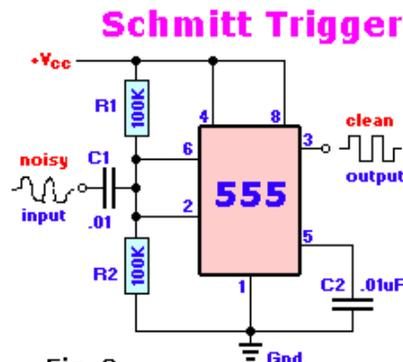

Fig. 9
**Fig. 9, Schmitt Trigger:** A very simple, but effective circuit. It cleans up any noisy input signal in a nice, clean and square output signal. In radio control (R/C) it will clean up noisy servo signals caused by rf interference by long servo leads. As long as R1 equals R2, the 555 will automatically be biased for any supply voltage in the 5 to 16 volt range. (Advanced Electronics: It should be noted that there is a 180-degree phase shift.) This circuit also lends itself to condition 60-Hz sine-wave reference signal taken from a 6.3 volt AC transformer before driving a series of binary or divide-by-N counters. The major advantage is that, unlike a conventional multivibrator type of squarer which divides the input frequency by 2, this method simply squares the 60-Hz sine wave reference signal without division.